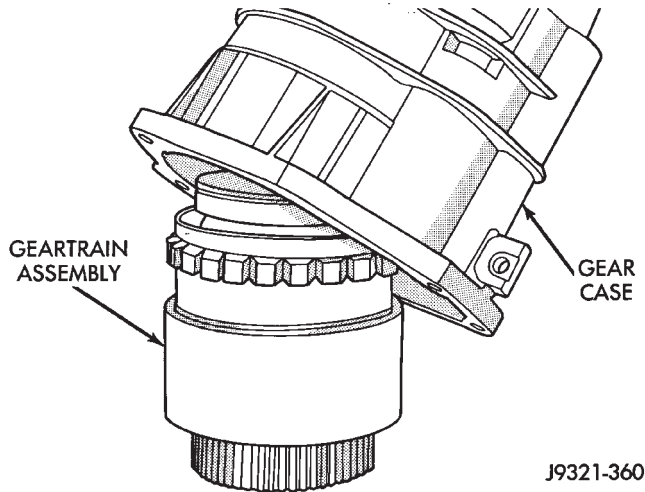

Fig. 231 Overdrive Gear Case Installation
(7) Support geartrain on Tool 6227-1 (Fig. 231). Be sure tool is securely seated in clutch hub.
(8) Install overdrive gear case on geartrain (Fig. 231).